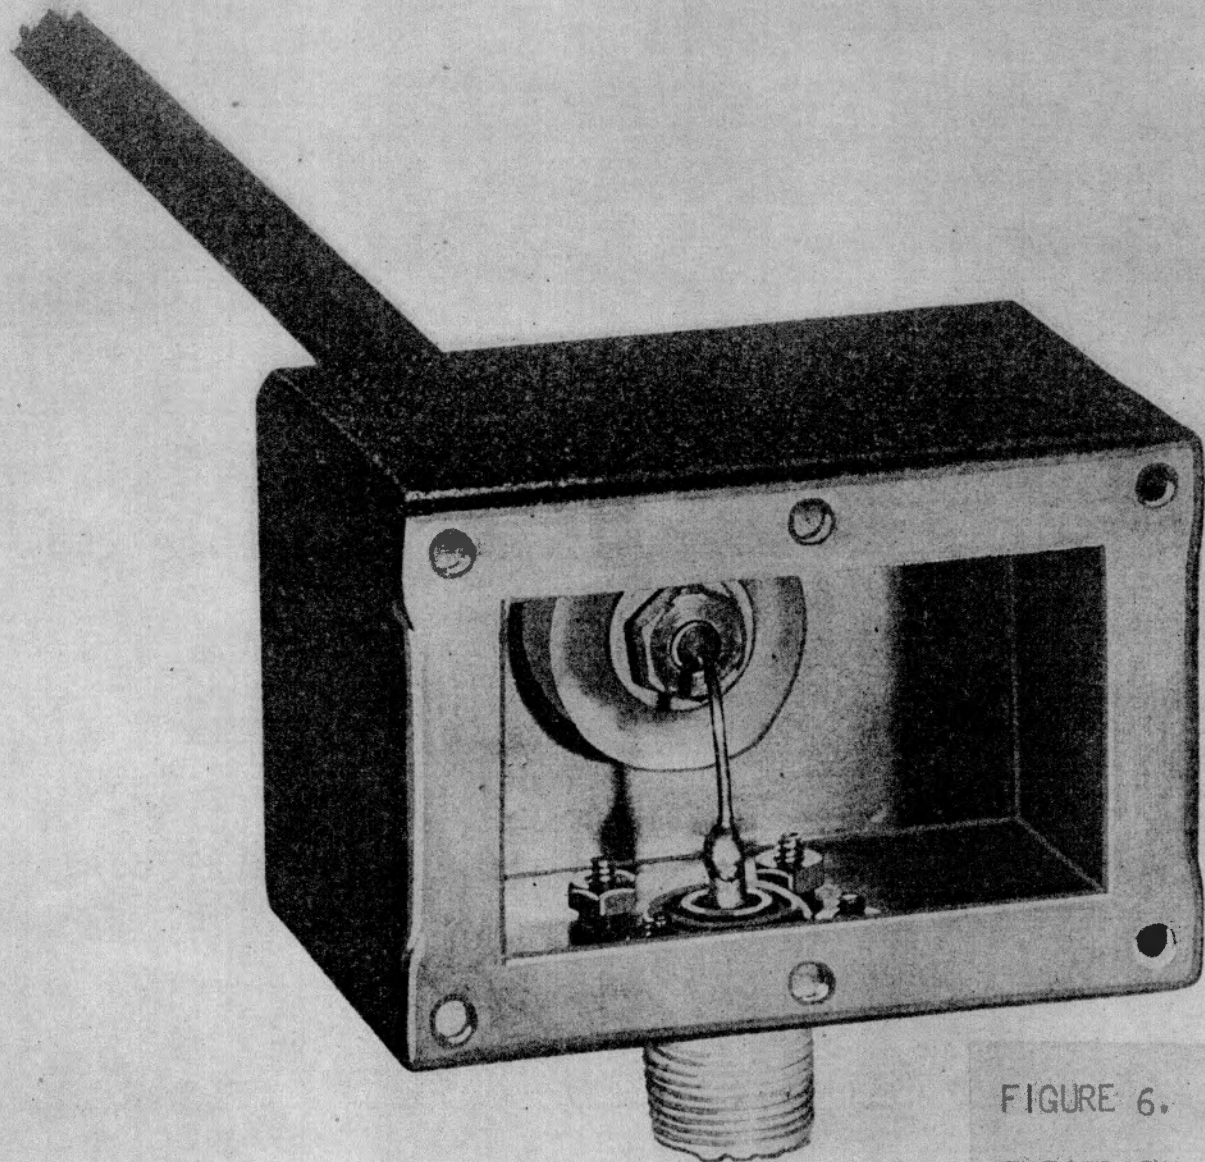

FIGURE 6. ILLUSTRATION SHOWING ELECTRICAL CONNECTION TO VERTICAL RADIATOR IN ANTENNA HOUSING.
- Figure 6. Illustration showing electrical connection to Vertical Radiator in Antenna Housing.